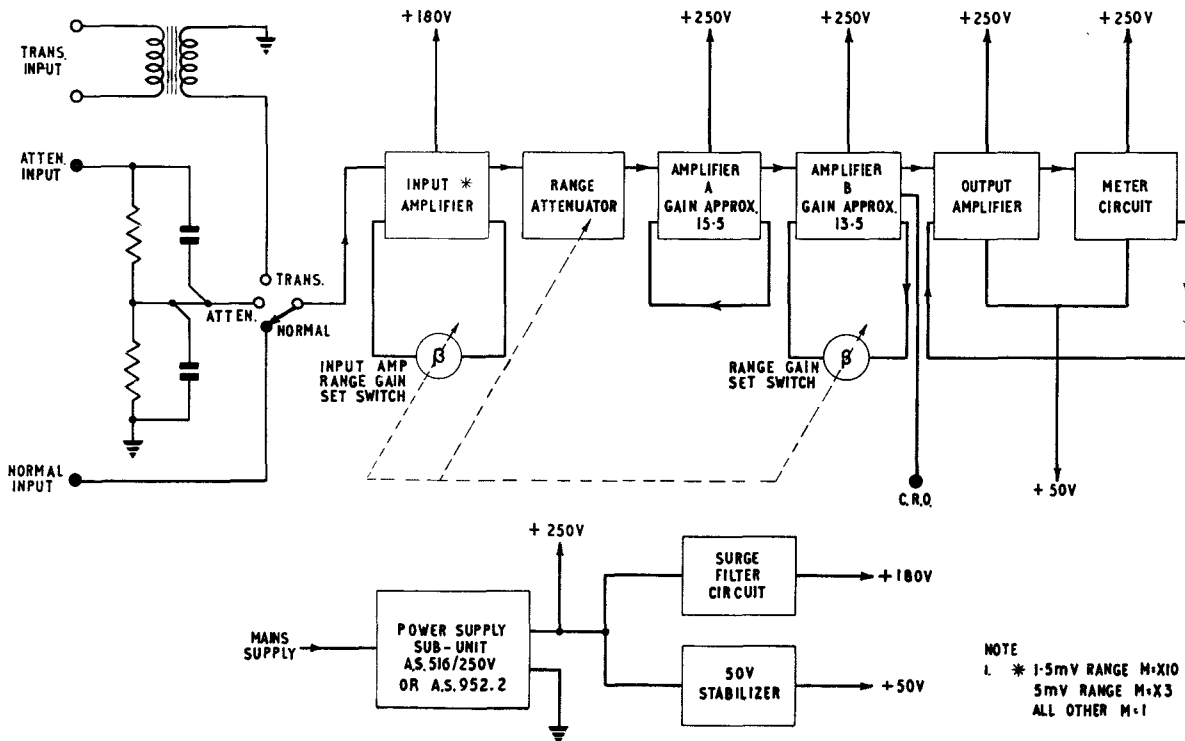

Fig. 2. CT 528—block diagram
2. The sensitivity ranges are obtained, partly by switching the negative feedback operative on the input amplifier, and partly by means of an attenuator after the input amplifier. The usefulness of the instrument is further increased by the input conditions switch, by which it is possible to select an isolated input through a 1:1 wide band transformer or an attenuated input through a 10:1 attenuator. Fig. 2 illustrates, in block diagram form, the various component circuits which, together, constitute the a.c. milli-voltmeter.